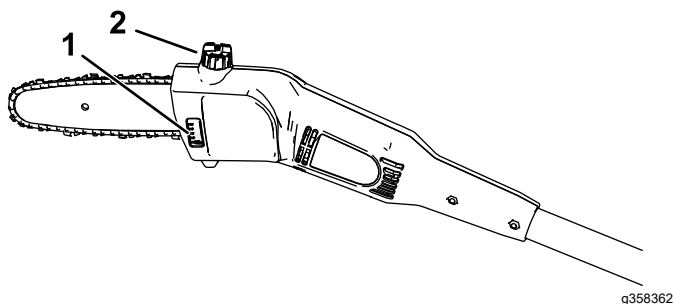

Figure 13
2. Check the oil level in the window. If the oil does not fill the window, add bar and chain oil as needed (Figure 13).
4. Clean the area around the oil cap (Figure 13).
5. Unfold the wing-nut tab on the oil cap tab, remove the cap, and pour bar and chain oil into the pole saw until the oil fills the tank (Figure 13).